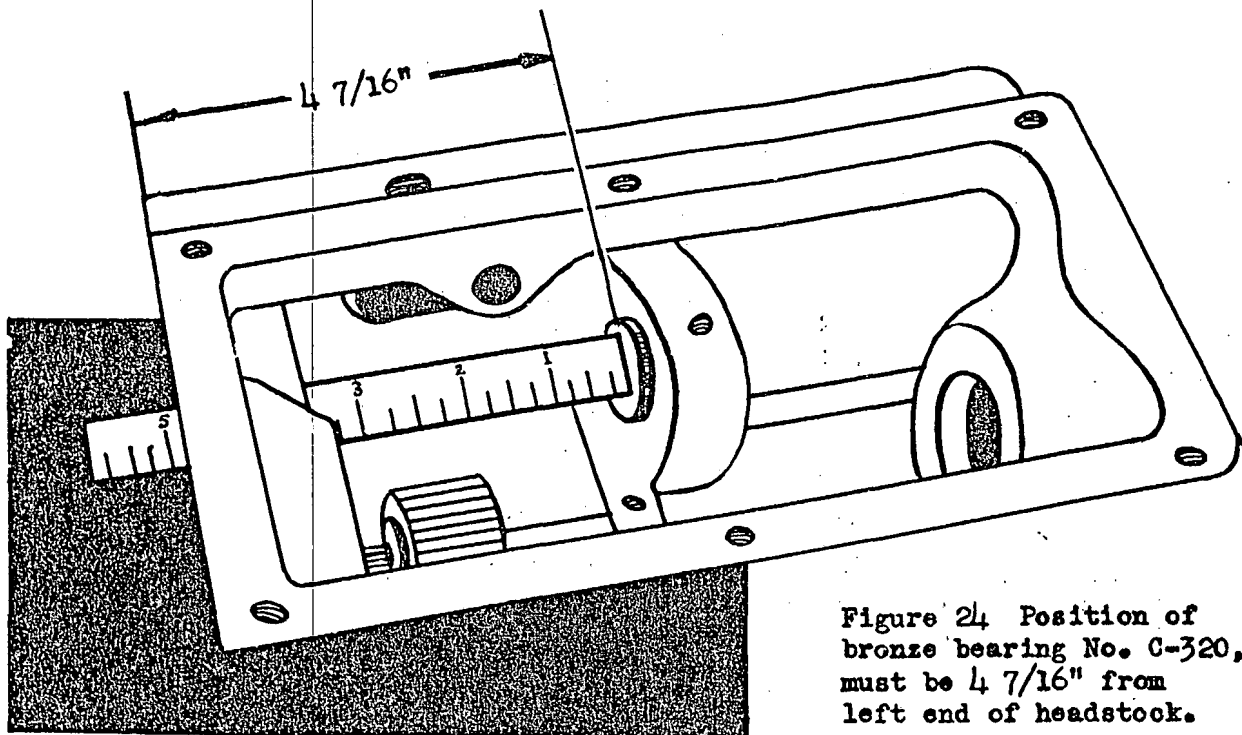

Figure 24 Position of bronze bearing No. C-320, must be $4 \frac{7}{16}$ " from left end of headstock.
3. Drive the C-320 bronze bearing into support inside headstock so that its lefthand edge is exactly 4-7/16" from outside machined surface of headstock on left end. See Fig. 24. Lock the C-320 bearing in place with set screw and lock nut. Do not tighten set screw too tight, as it will distort bearing. The hole through these two bearings should be reamed with a .7505 reamer after they have been installed in headstock.